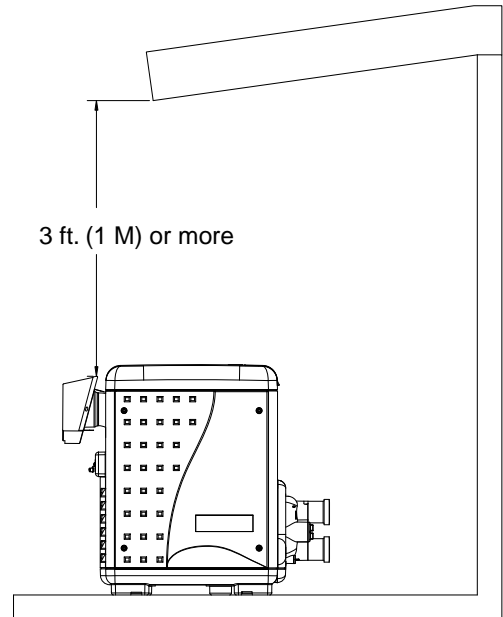

Figure 8.
If the heater is located under a roof overhang, there must be at least three (3) feet (1m) of clearance between the bottom of the overhang and the top of the heater exhaust vent, see **Figure 8**. If the heater is under a roof overhang, the space around the heater must be open on three sides. **DO NOT, under any circumstances, install the heater under ANY deck.**